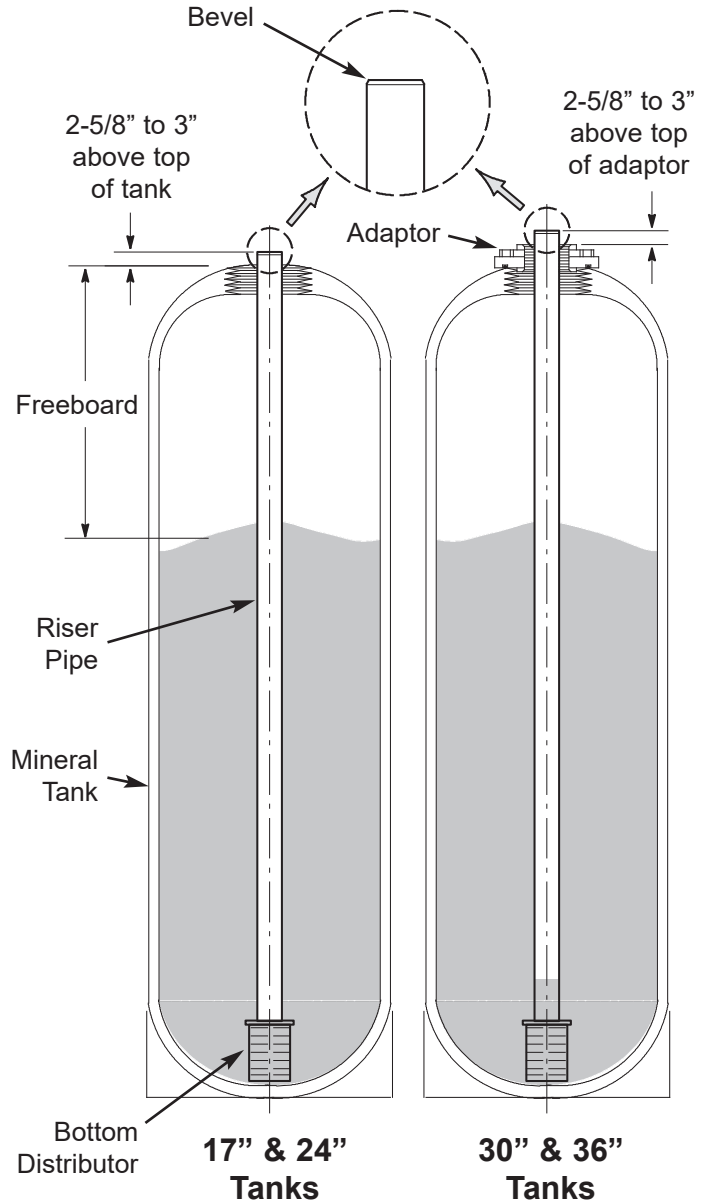

FIG. 1
3. On All Tanks: Place the bottom distributor into the resin tank and center it. Check the distributor length, as shown in Figure 1, and adjust it as needed. **It must extend between 2-5/8" and 3" above the top of the tank (or that distance above the top of the adaptor on 30" and 36" units).**